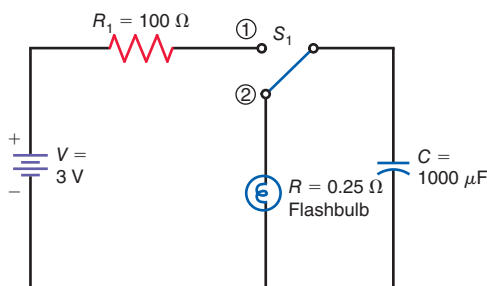

Figure 21-16
- 21.15** In Fig. 21-16, what is the RC time constant with S_1 in position
- 21.16** In Fig. 21-16, how long will it take the capacitor voltage to